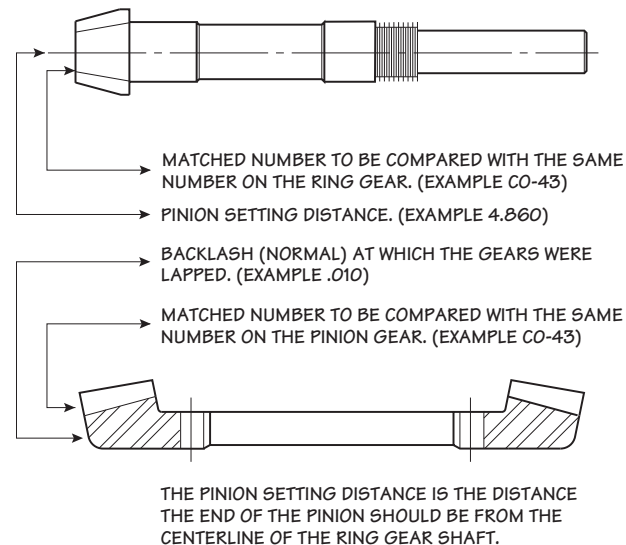

Figure 9 Gear Match Numbers and Setting Data
Before assembling a new pinion gear in the pinion cage check match numbers on pinion gear and spiral bevel ring gear to be certain that they are a matched set. Gears are lapped in matched sets at the factory and should not be separated. Numbers are etched on both the pinion and ring gear as illustrated in **Figure 9**.
1. Install O-ring (702) onto pinion cage subassembly.
2. Bolt pinion cage subassembly to case using proper number of shims to give indicated pinion setting distance which is etched on front face of pinion gear. See **Figure 9**. Tighten to 75 ft·lb_f (102 N·m) torque.